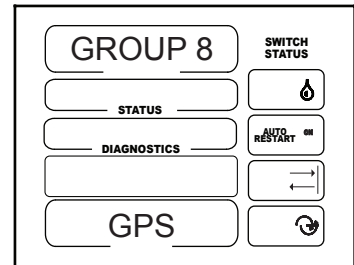

Figure 45-1
2. GROUP 8 will be shown in the display screen. See figure 45-1.